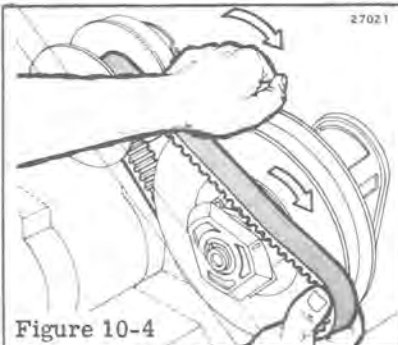

Figure 10-4
- e. Ride belt off sheave as sheave is twisted to right and closed, Figure 10-4.